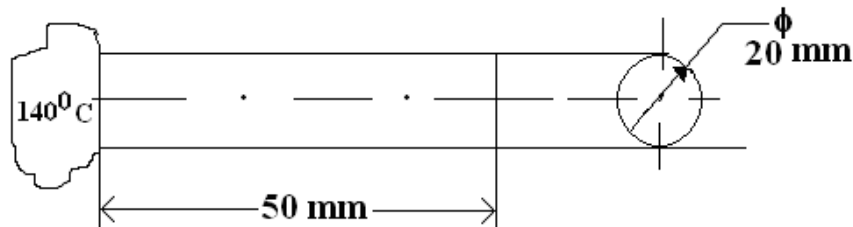

Figure 1
3. Find the heat transfer through a uniform cross section fin, one end of the fin is connected and fixed to the heat source (temp. of  $140^0C$ ) and the heat will be lost to the surroundings through the perimeter surface and the end. Use 2 elements and take surrounding temperature is  $40^0C$  as shown in figure 1. [16]